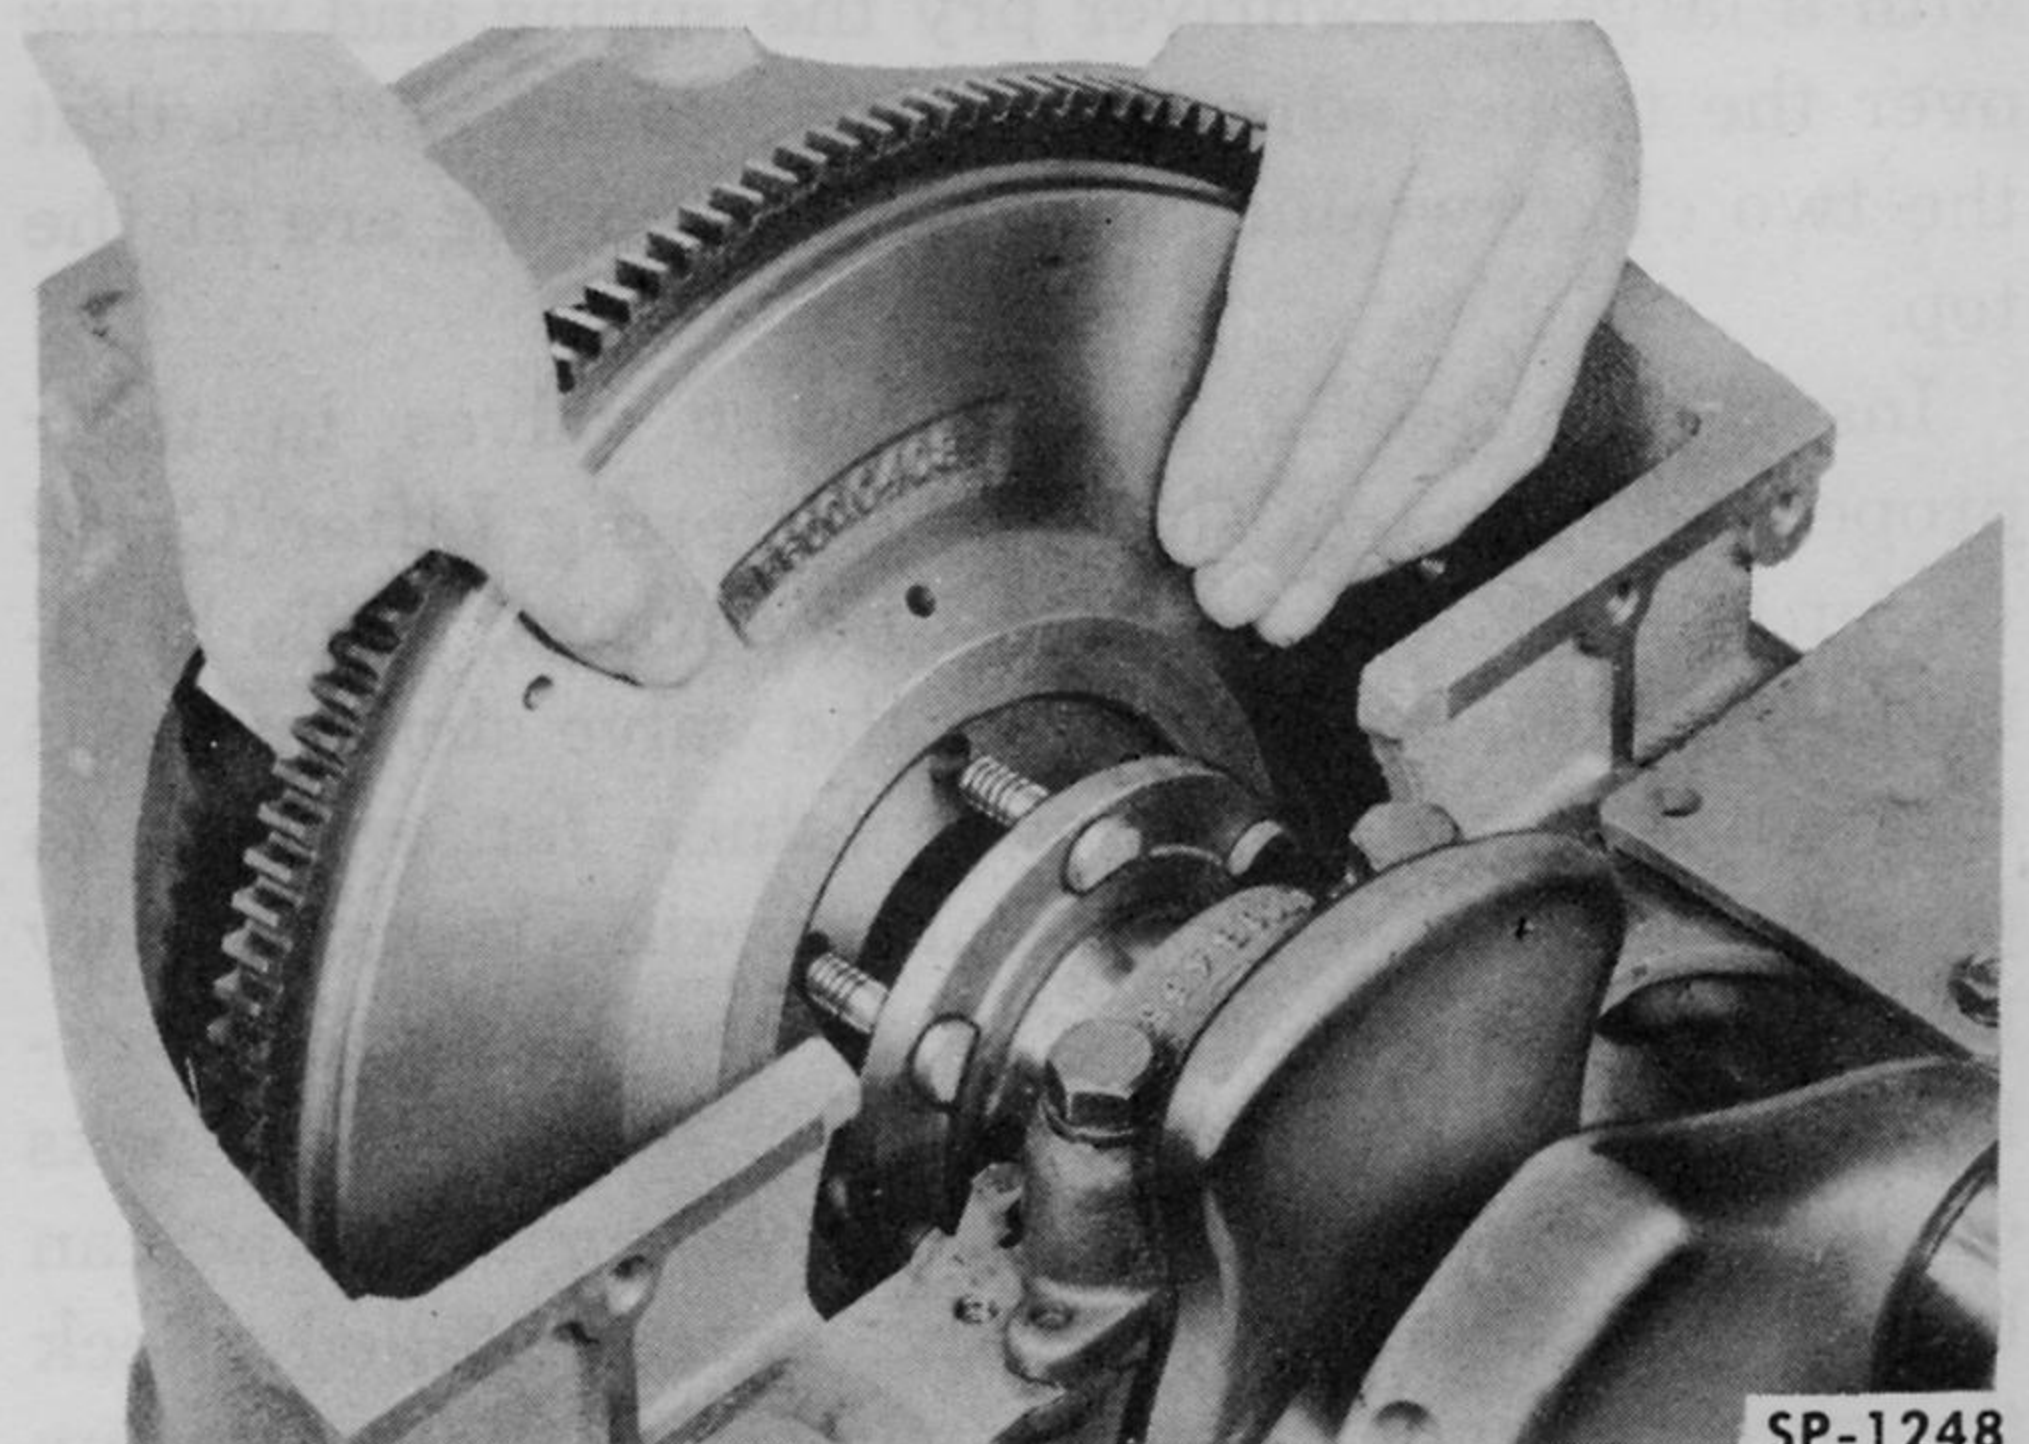

Fig. 89—Installing Flywheel on Crankshaft
k. INSTALL FLYWHEEL (Standard or Overdrive Transmission). Be sure that the crankshaft flange to flywheel mating surfaces are clean to permit proper flywheel alignment. Place the flywheel on the mounting bolts on the crankshaft (Fig. 89). The bolts are so spaced that the flywheel will fit in only one position. Assemble the lockwashers and nuts to attach the flywheel, tightening the nuts alternately and evenly until each nut is tightened to 35–40 foot pounds torque. Refer to FLYWHEEL, earlier in this Section for checking flywheel alignment. If installing a flywheel used with Hydra-Matic Drive refer to page 106 of the Hydra-Matic Shop Manual for installation instructions.